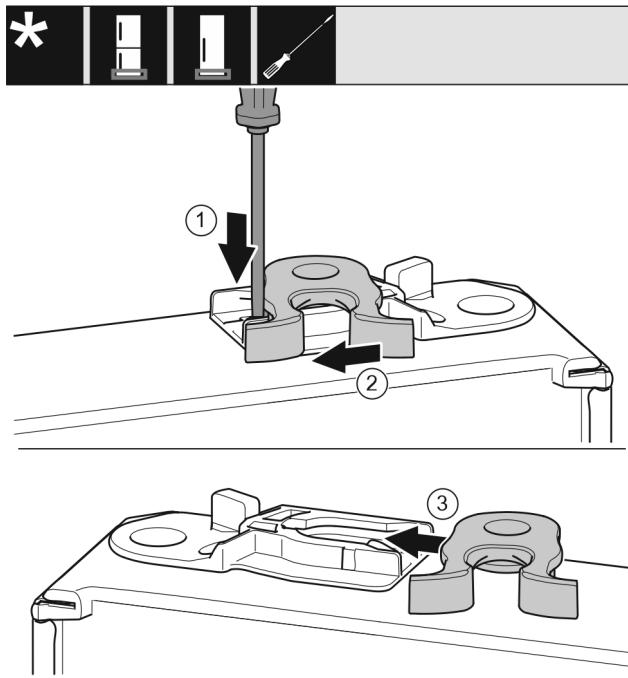

Fig. 19
- Use a slotted screwdriver to push the tab Fig. 19 (1) downward.
- Pull the closing hook Fig. 19 (2) out of the guide on the other side.
- Push the closing hook Fig. 19 (3) to the other side in the guide.